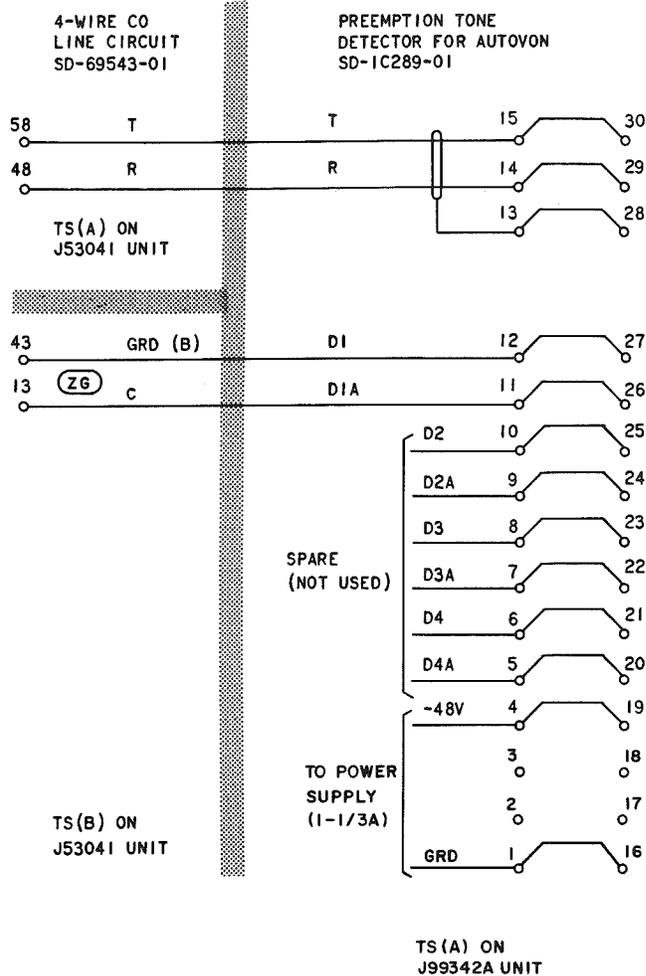

Fig. 2—Connections Required for Adding the Preemption Tone Detector
**3.01** Mount the J99342A unit as near as possible to the 4-wire CO line circuit. Two conductor shielded wires are required to bridge the detector to the T & R of the AUTOVON trunk as per Fig. 2. Two conductor non shielded paired wires are required to extend the D1 and D1A leads.